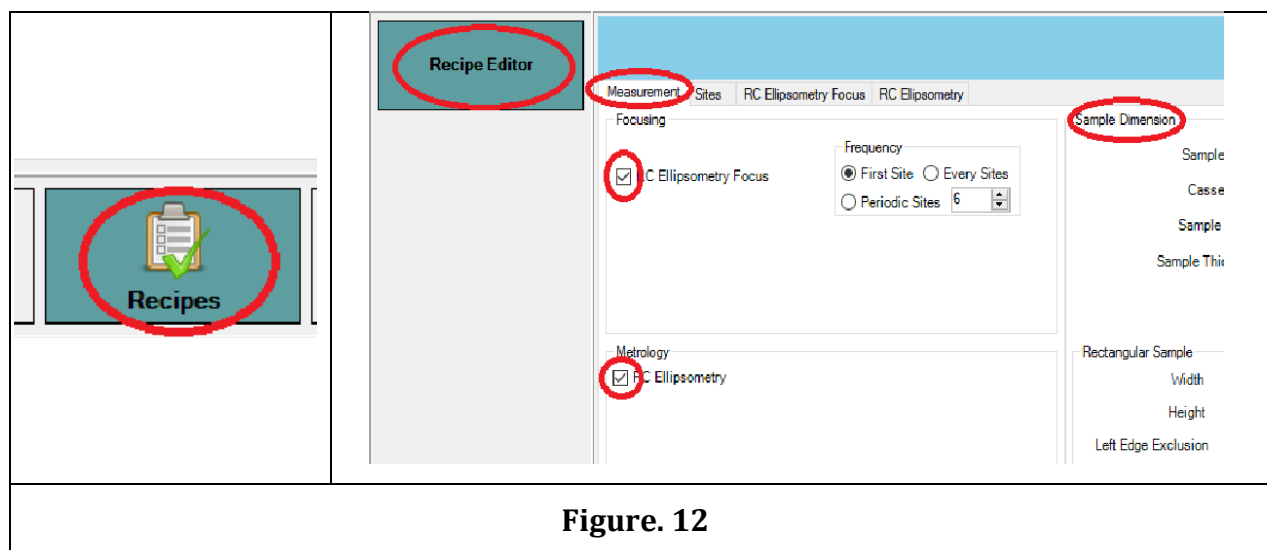

Figure. 12
21. Go to “Measurement”. (Figure. 12)